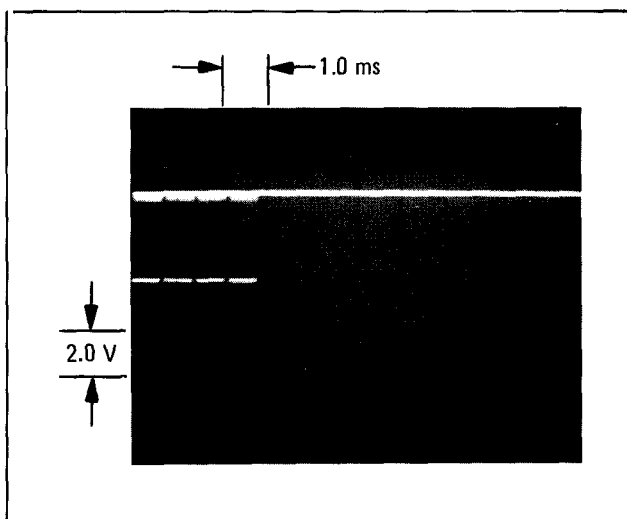

Figure 14. Oscilloscope Display of LF Loop Clock for 4 Data Words at J3-Pin 10 (with dc coupling; external triggering is from J3-Pin 10)
3. Set the Signal Generator's frequency to 500 MHz. Increment the frequency up 1.00025 MHz to select 250 Hz resolution (TB and ÷N are 250 Hz). Four words are written to the LF Loop. Refer to Figures 14 and 15.